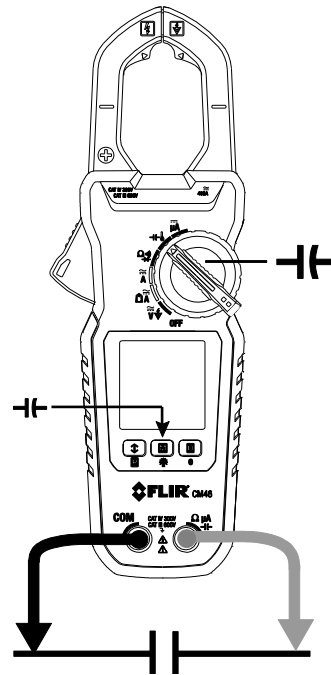

Figure 5-7 Capacitance Measurements
4. Touch the tips of the probe across the part under test (see Fig. 5-7).